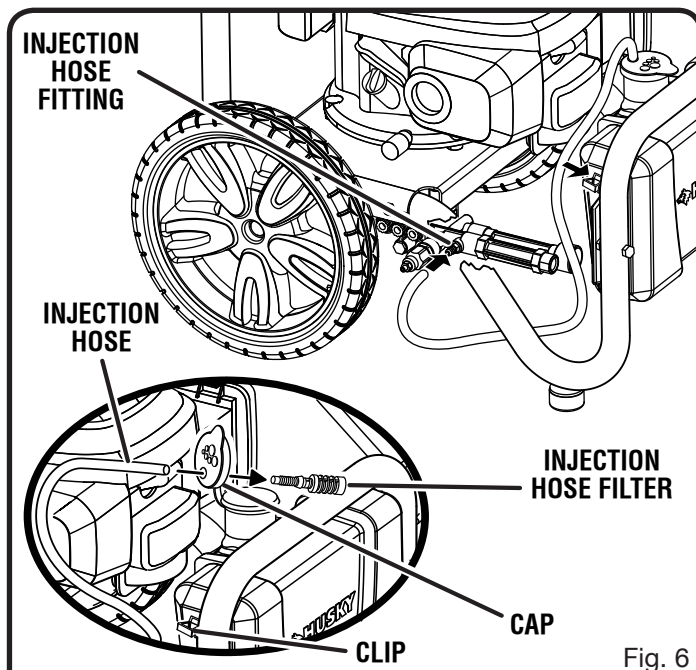

Fig. 6
See Figure 6.
- Push the open end of the clear injection hose securely over the fitting as shown in figure 6.